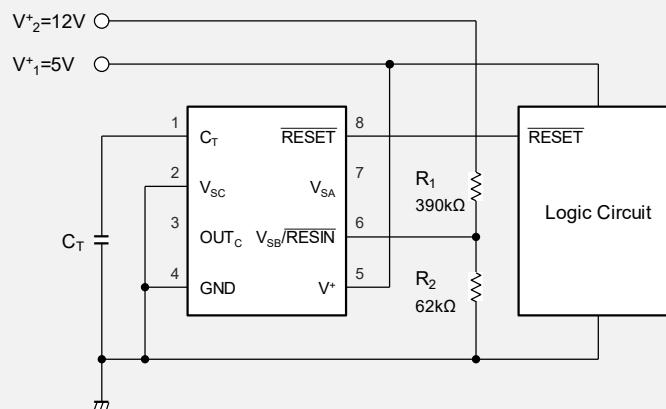

Fig. 5 5V, 12V power supply monitor (dual power supply monitor : $V^+_1 = 5V$, $V^+_2 = 12V$)
- V^+_2 detection voltage (falling, rising) is set by R_1 and R_2 according to following formula. In case of resistor value in Fig.5, the detection voltage (falling) is about 9.0 V and the detection voltage (rising) is about 9.2 V.